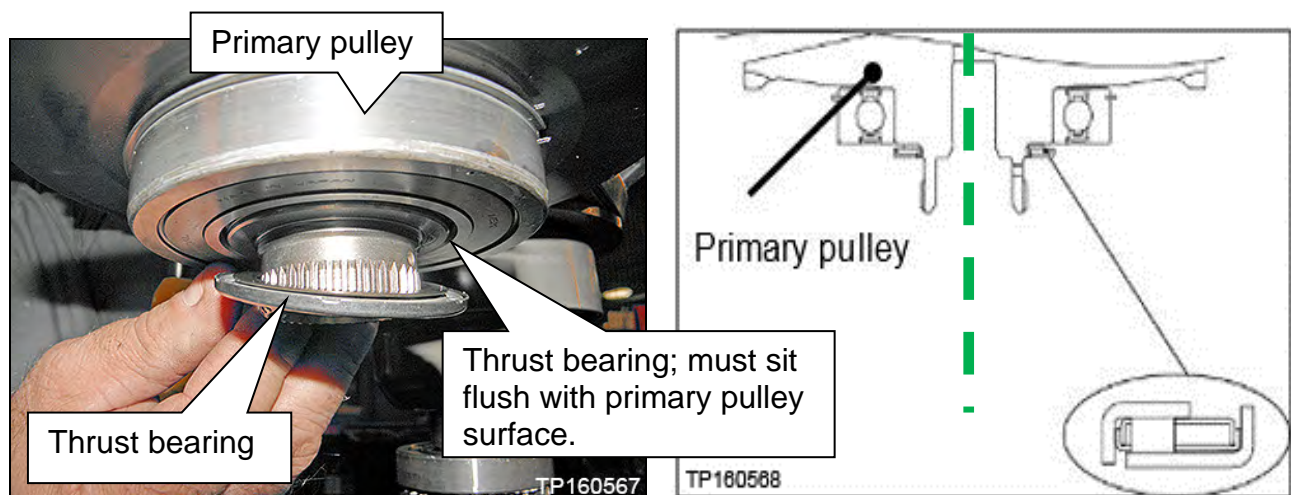

Figure 27F
23. Install the original thrust bearing on the primary pulley of the new sub-assembly part (Figure 27F).
CAUTION: The thrust bearing has two sides. Reference Figure 27F for bearing orientation.